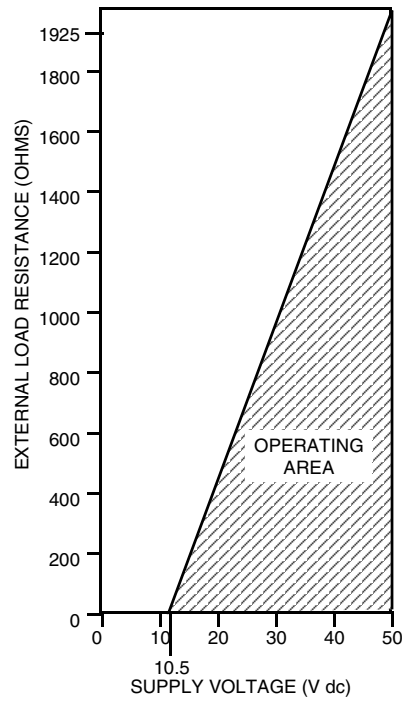

Figure 14. Load Requirements - Analog Output
- ◆ For a given supply voltage, the flowmeter must operate within the shaded area shown in Figure 14.